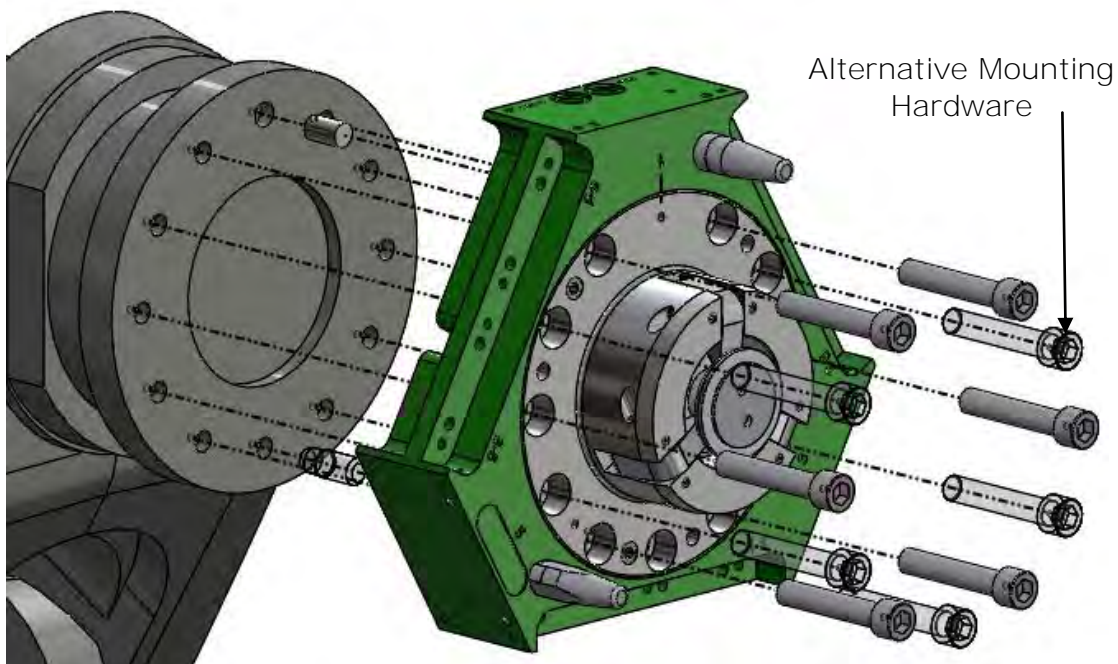

Figure 5.1-1. E160 Robot Adaptor Installation w/ M12 Hardware
1. Locate the Robot Adaptor to the manipulator mounting flange utilizing the locating boss and one (1) M12 locating dowel. Alternatively, the Robot Adaptor can be located using one (1) M12 locating dowel and one (1) M12/M13 stepped locating dowel (Figure 5.1-1).